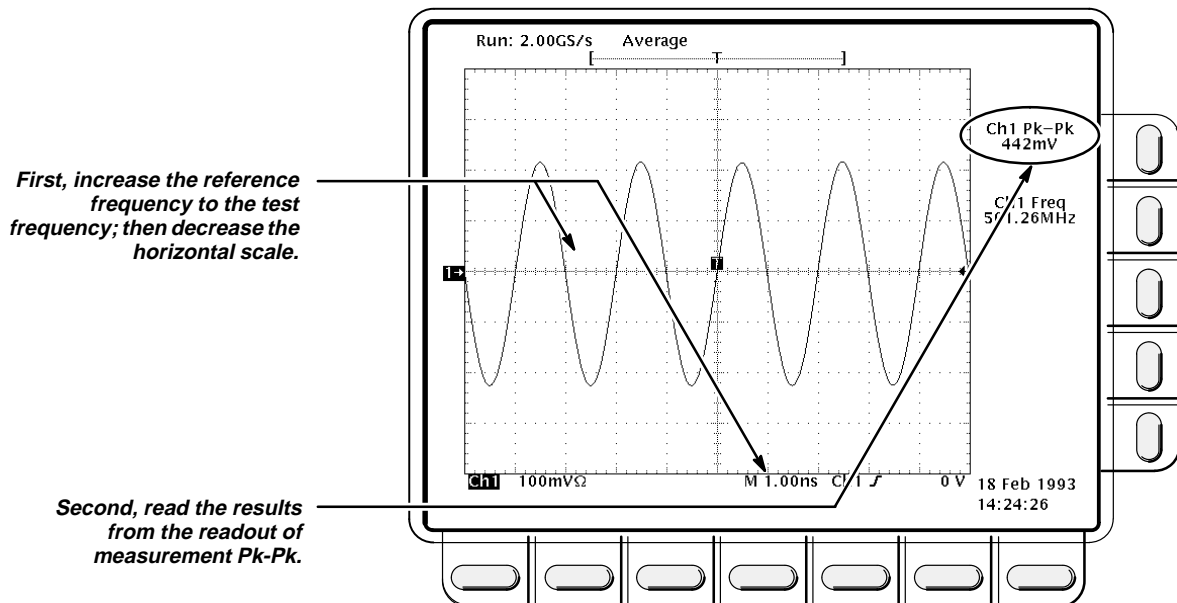

Figure 1-9: Measurement of Analog Bandwidth
- Read the results at the CHx Pk-Pk readout, which will automatically measure the amplitude of the test signal. See Figure 1-9.